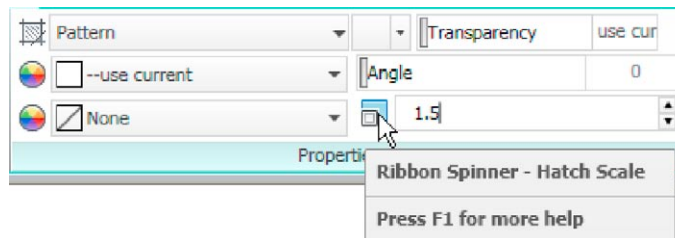

Fig. 8.7 Set the **Hatch Scale** in the **Hatch Creation/Properties** panel
3. Set the **Hatch Scale** to **1.5** in the **Hatch Creation/Properties** panel (Fig. 8.7).